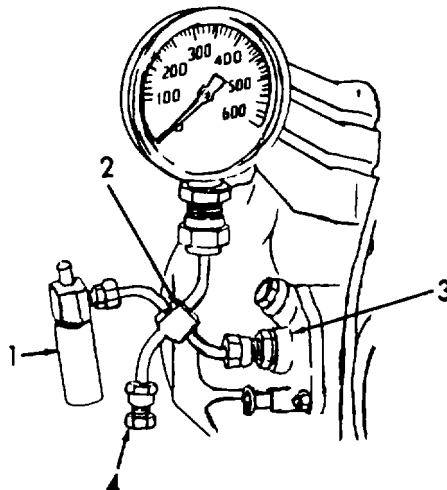

Figure 5-5. Fuel Injector Test Set-Up.
b. Test. (Refer to figure 5-5).
- (1) Visually inspect injector (1) for scoring or burning. Inspect to see if injector is bent, cracked, or damaged. If injector is damaged, replace it.
- (2) Connect testing device (3) to injector pump (4) and injector (1). Make sure side connection (5) is tightly locked.